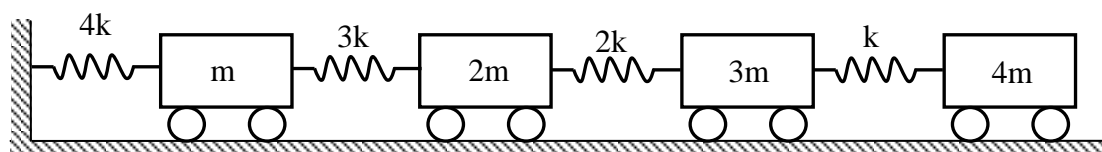

Fig. Q6B
- 6B. Using Holzer's method find the fundamental natural frequency of a spring mass system shown in figure Q6B. Take  $k = 1000$  N/m and  $m = 1$  kg. 05